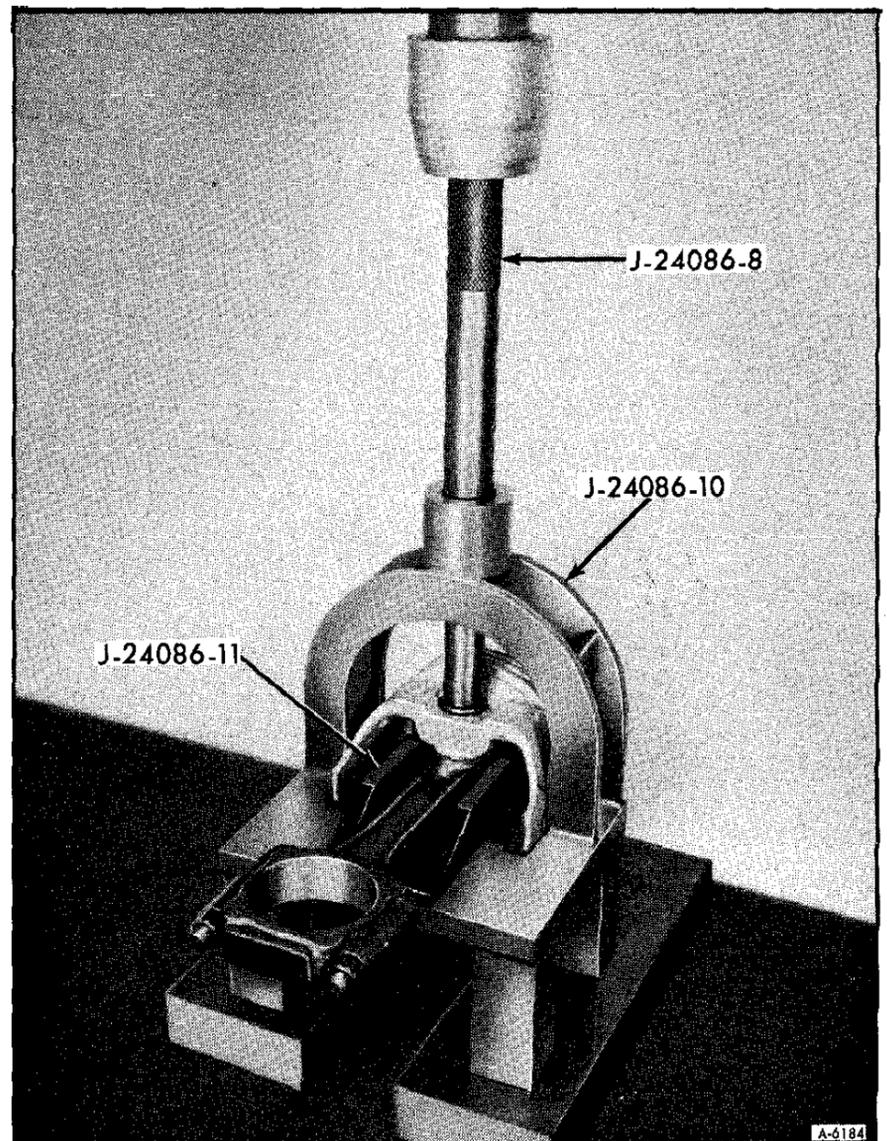

Figure 2—Removing Piston Pin with J-24086-8
1. Position Tool J-24086-11, the Support Fork of the piston pin tool set, between the connecting rod and piston. (See figure 2.)